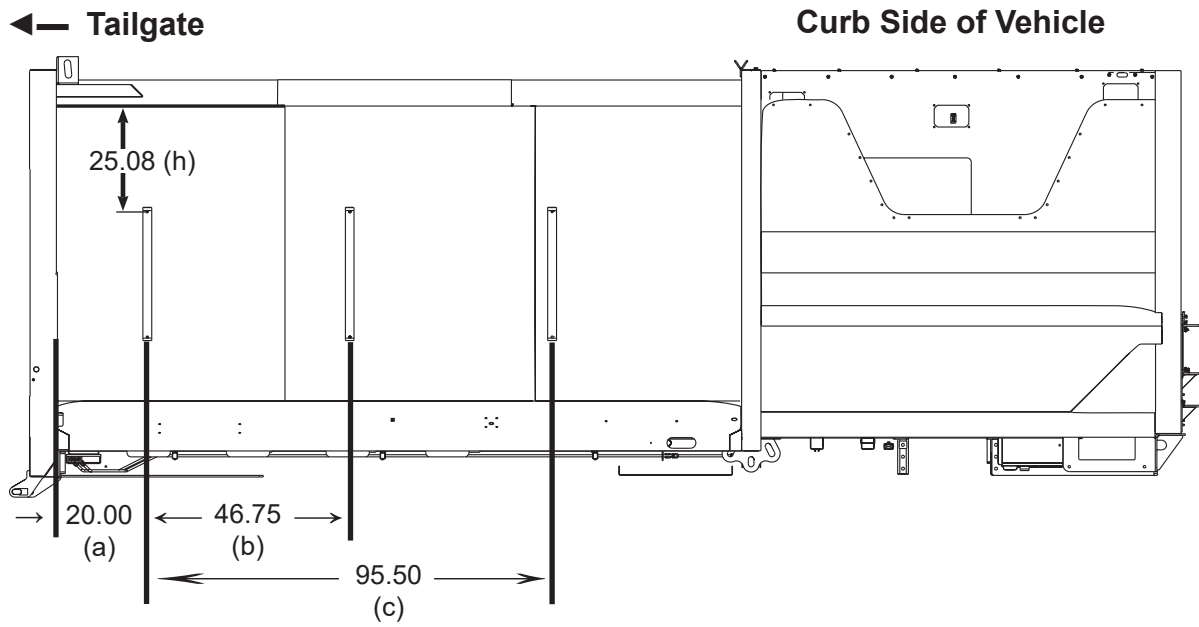
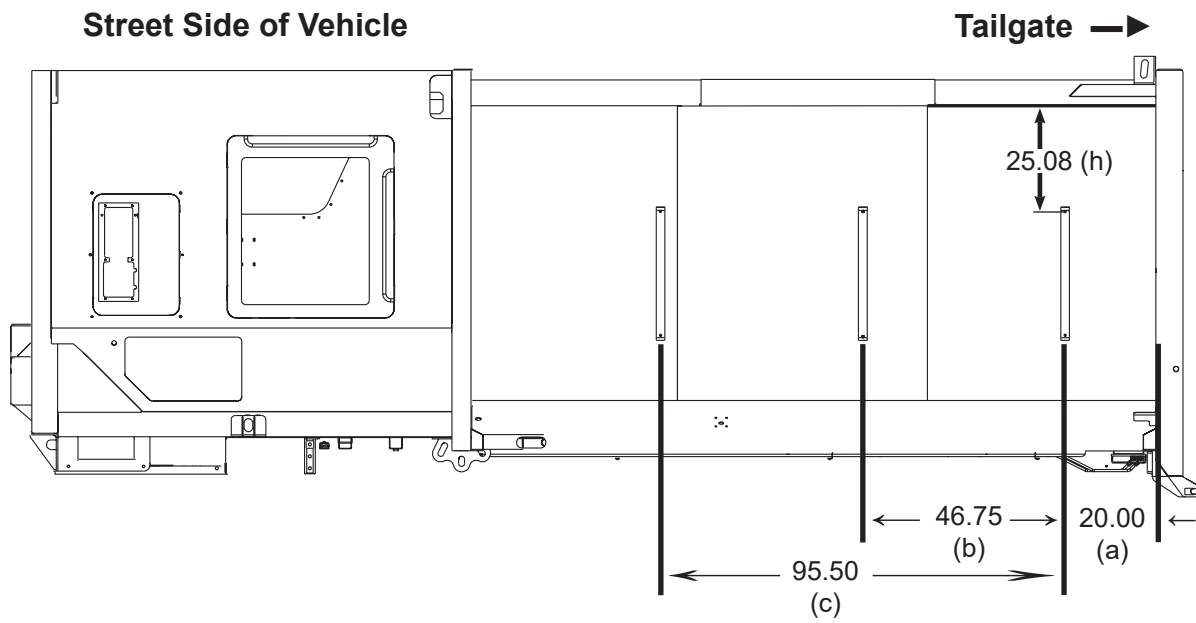

Figure 1
Figure 2
10. From the outside of the vehicle, measure and mark the distances as shown in Figure 1 and Figure 2. **All measurements are in inches.** NOTE: Some components are hidden for clarity.